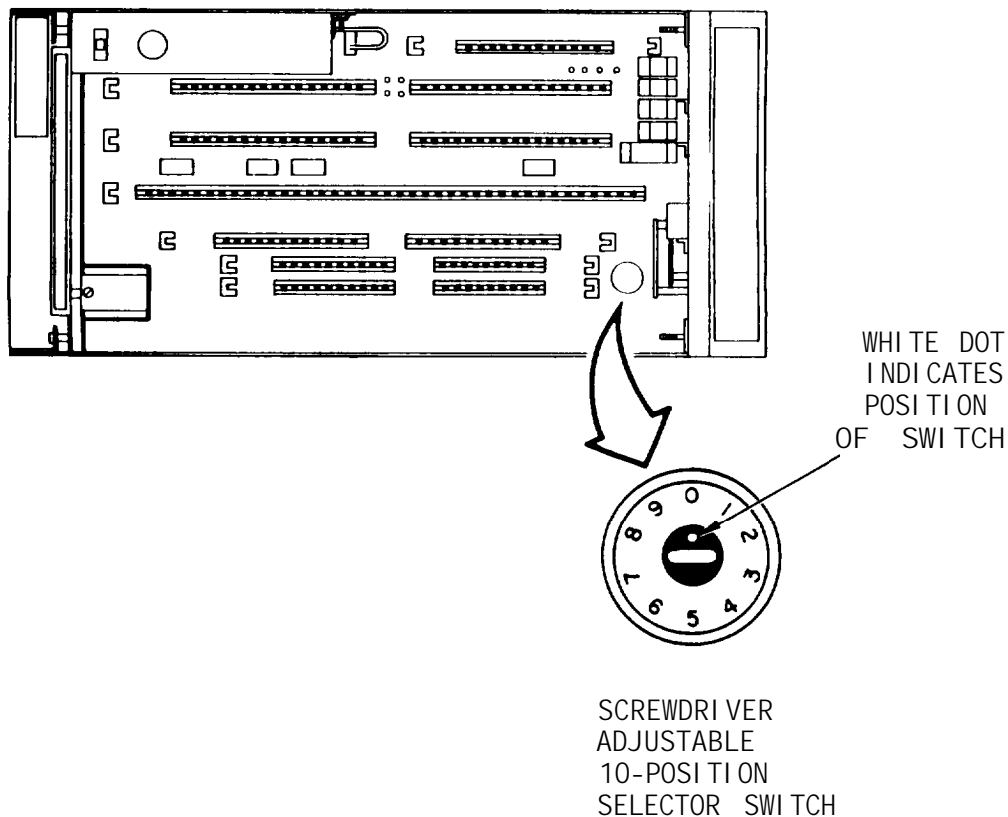

Figure 1-6. Transmit Output Level Switch
b. Transmit Output Level. The output level of the transmit output amplifier is switch-selectable to configure to a variety of applications. Level may be set at -16, -14, -12, -10, -8, -6, -4, or 0 dBm (fig. 1-6).
(1) In 2400 baud mode it requires a balanced 600-ohm, type 3002, C2 unconditioned telephone line or equivalent, with a normal 16 dBm loss and frequency translation of up to ± 10 Hz.
(2) In 1600 baud mode it requires a balanced 600-ohm, type 3002, unconditioned telephone line or equivalents, with a normal 16 dBm loss and frequency translation of up to ± 10 Hz.
(2) Transmit Output Level Switch. The transmitter output signal level is controlled by a ten position screwdriver-adjustable switch located near board A7 (fig. 1-6). Position 0 terminates the transmit line in 600 ohms.